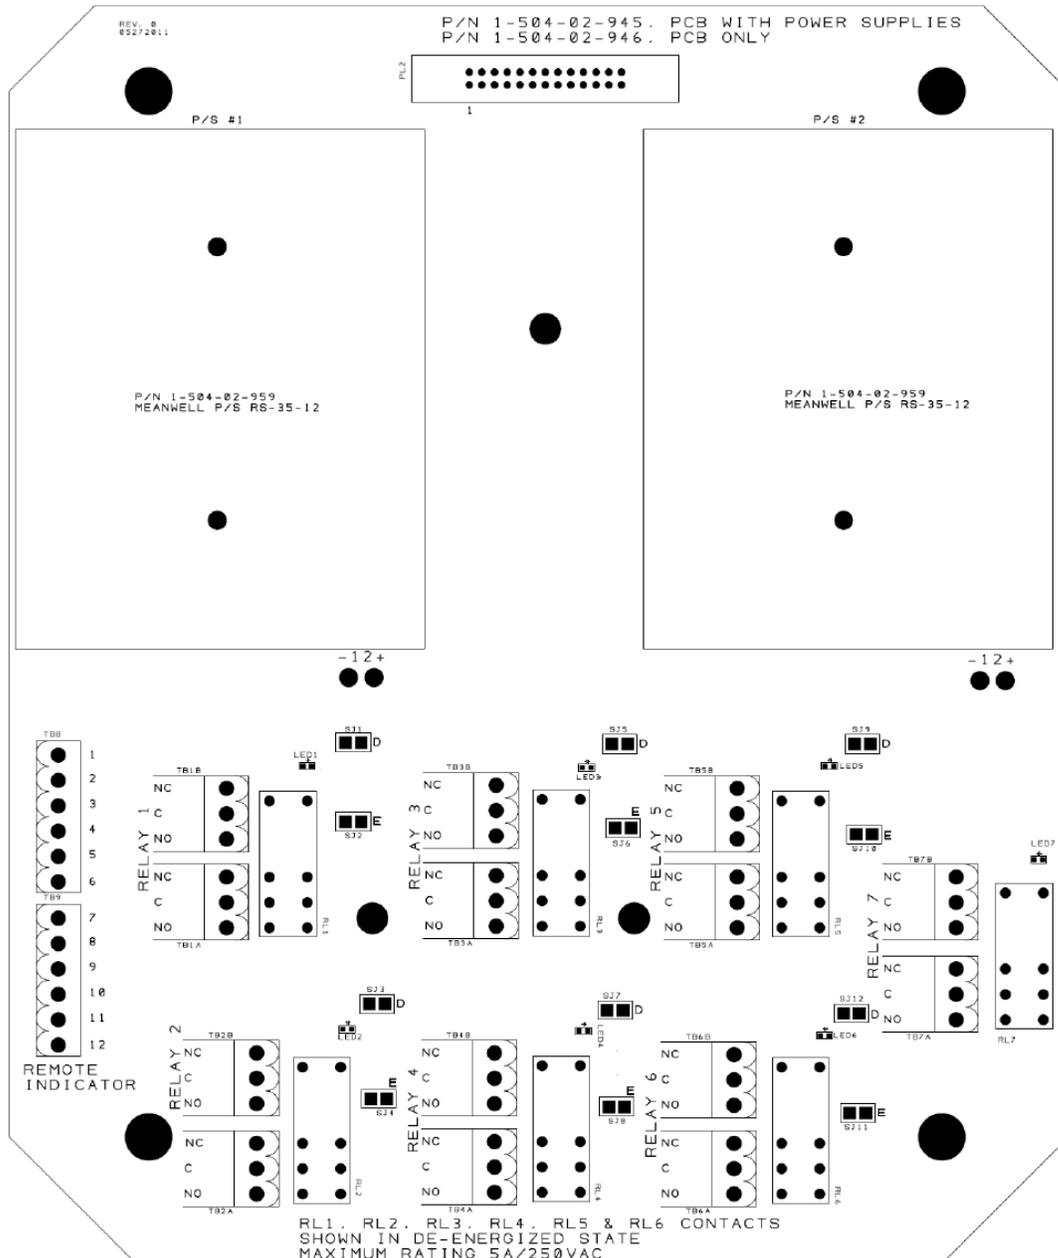

Figure 3.4.1
- 7) Probe Assignment (6 Places): Jump "A" to set probe to normally Wet state. (See Part 3.3 and Figure 3.4.1)